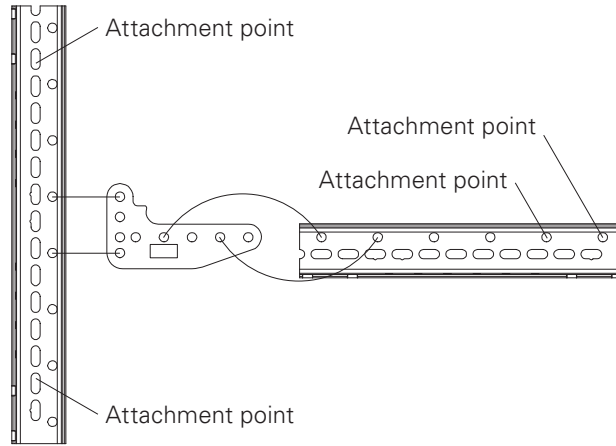

Fig. C2.01a
- Mount Corner Connector SRU VARIOKIT (59) using 2x Fitting Pin Ø 21 x 120 (48), and secure with Cotter Pin 4/1 (47). (Fig. C2.01a + C2.01d)
- Attach the Steel Waler SRU U120, L = 0.72 m (58) in the marked holes of the Corner Connector SRU VARIOKIT using 2x Fitting Pin Ø 21 x 120 (48) and secure with Cotter Pin 4/1 (47). (Fig. C2.01a + C2.01d + C2.01f)
- Install 4x Fitting Pin Ø 21 x 120 (48) for the attachment points and secure with Cotter Pin 4/1 (47). (Fig. C2.01a + C2.01g)